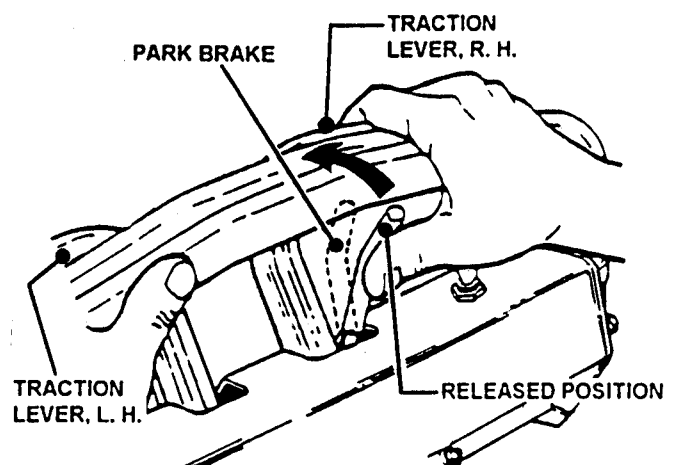

FIGURE 16
When Traction Lock Lever is placed in **PARK** position, both Traction Wheel Drives are disengaged and wheel brakes are set, allowing the operator to **PARK THE MOWER ON LEVEL GROUND OR WHEN TRANSPORTED IN TRUCK OR TRAILER**. See Figures 16 & 17.
3. To **release** Traction Lock, squeeze both Traction Levers firmly against the handlebar allowing Traction Lock to release. Simultaneously move both Traction Levers **slowly** forward, allowing machine to start forward movement. See Figure 16.